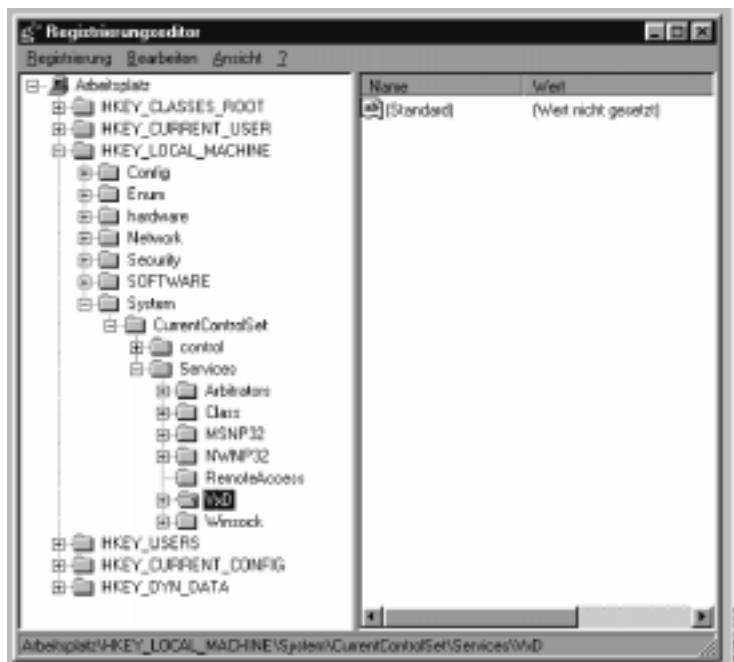

Figure 44: Windows '95 Registry New Image
- In the next step the driver will be included in the *registry-table* : Please use the program **REGEDIT** in the **WINDOWS95** - directory. Please step through the registry key tree until you reach *VxD* (see *Figure 44*).